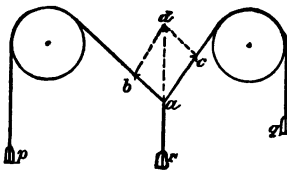
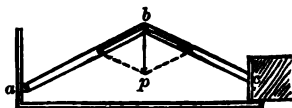

FIG. 8.—RESOLUTION OF FORCES.
FIG. 11.—KNEE-JOINT.
66. Component Forces greater than the Original.—It is possible to resolve a force into two components each of which shall be much greater than the original force. If in Fig. 8 the weight r should be very small, the line between the pulleys would be nearly straight, and by constructing the parallelogram it would be seen that the components along ab and ac would be much greater than r . The same principle is shown in the knee-joint (Fig. 11). This consists of a pair of levers, jointed together at b . One of them is